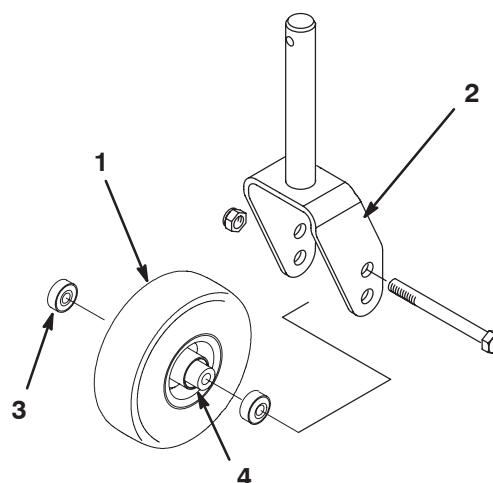
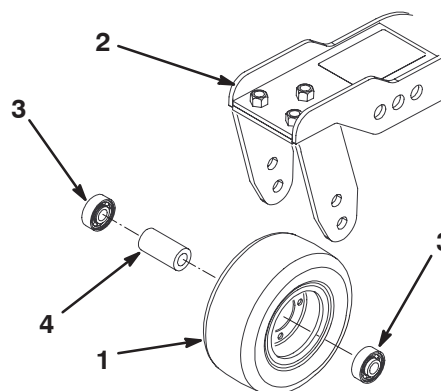

Figure 81
Figure 82
1. Remove the locknut from the capscrew holding the castor wheel assembly between the castor fork (Fig. 81) or the castor pivot arm (Fig. 82). Grasp the castor wheel and slide the capscrew out of the fork or pivot arm.
2. Remove the bearing from the wheel hub and allow the bearing spacer to fall out (Fig. 81 and 82). Remove the bearing from the opposite side of the wheel hub.